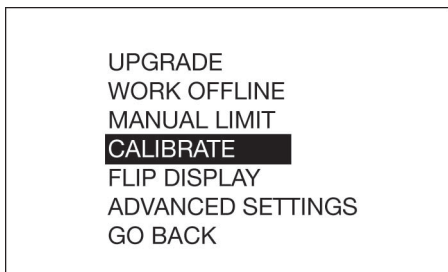

FIG. 17
4. Use the UP and DOWN arrows on the navigation pad to select CALIBRATE (FIG. 17).